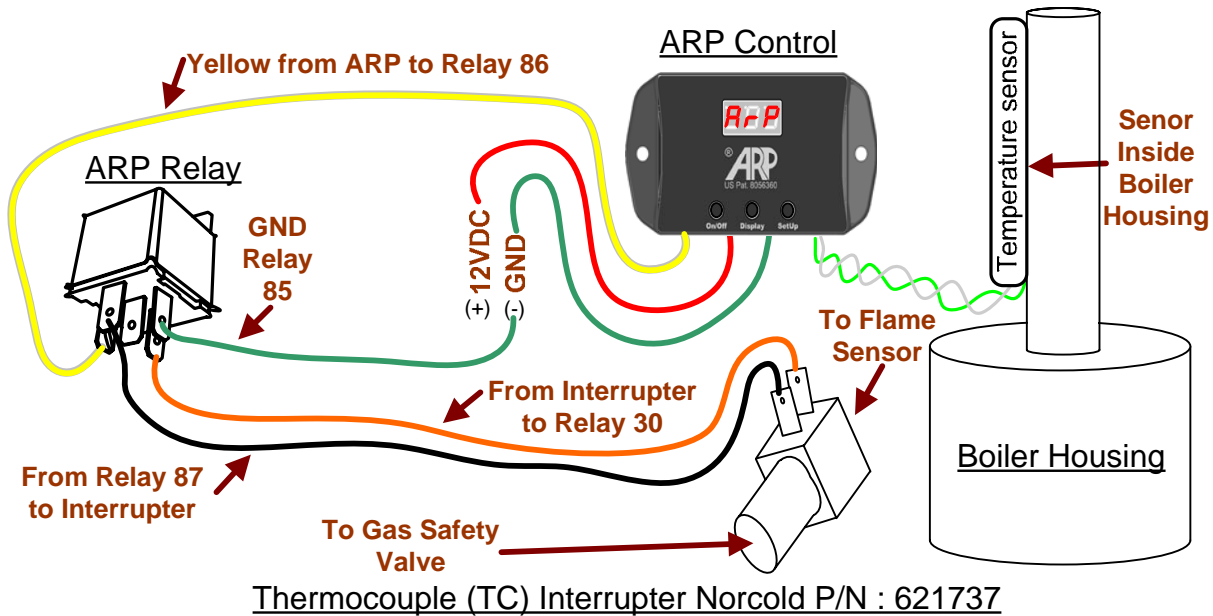

Fig. 11 Typical Wiring for Manual Control Fridge
- 2) Stop power from reaching the manufactures' flame sensor if the refrigerator has a manual control (see Fig. 11).
Fig. 11 shows how to use a relay to wire a
heat situation and terminal **87** is now open. The installer needs to be able to understand the basic principles of automotive relay operation so that they can determine the best configuration for the relay. As an example terminal **30** combined with terminals **87** and **87a** can either control by providing a ground or +12VDC supply to any accessory desired. Fig. 11 shows the aforesaid relay configuration for the control of the manual type refrigerator safety thermocouple (TC) in combination with a TC Interrupter.